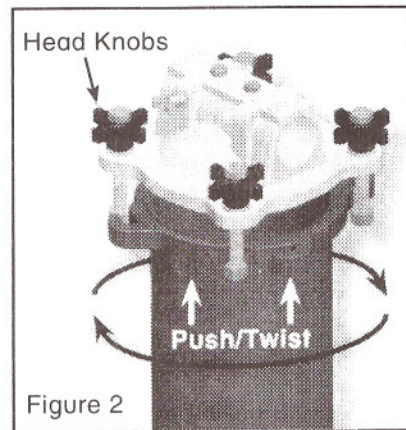

Figure 2
9. Insert a new cartridge into the housing. Position housing (with cartridge) underneath filter head. Push/Twist cartridge onto head spigot. The head conical spring will seat/seal the cartridge into the housing. (see Figure 2 & 3)